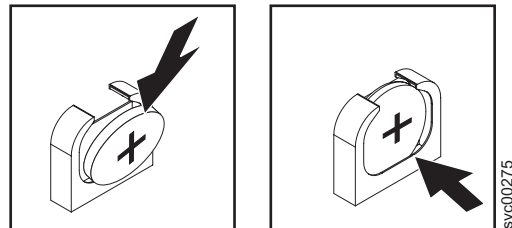

Figure 147. SAN Volume Controller 2145-8G4 CMOS battery holder
- b. Press the battery down into the socket until it clicks into place. Make sure that the battery clip holds the battery securely, as shown in Figure 147.